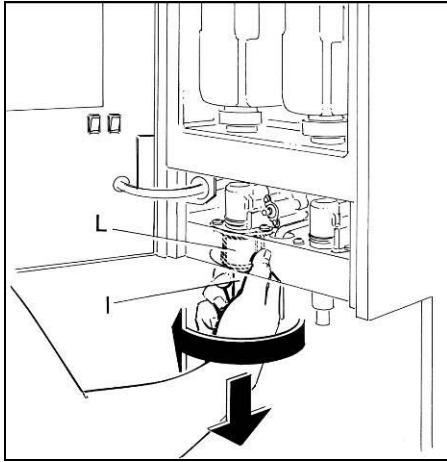

Fig. 4
- **R**emove the bracket L together with the nozzle tap I (Fig. 4) rotating it clock wise.
- **T**urn the switch Y off to exclude the syrup pumps (Fig. 4) before the rinsing operation.